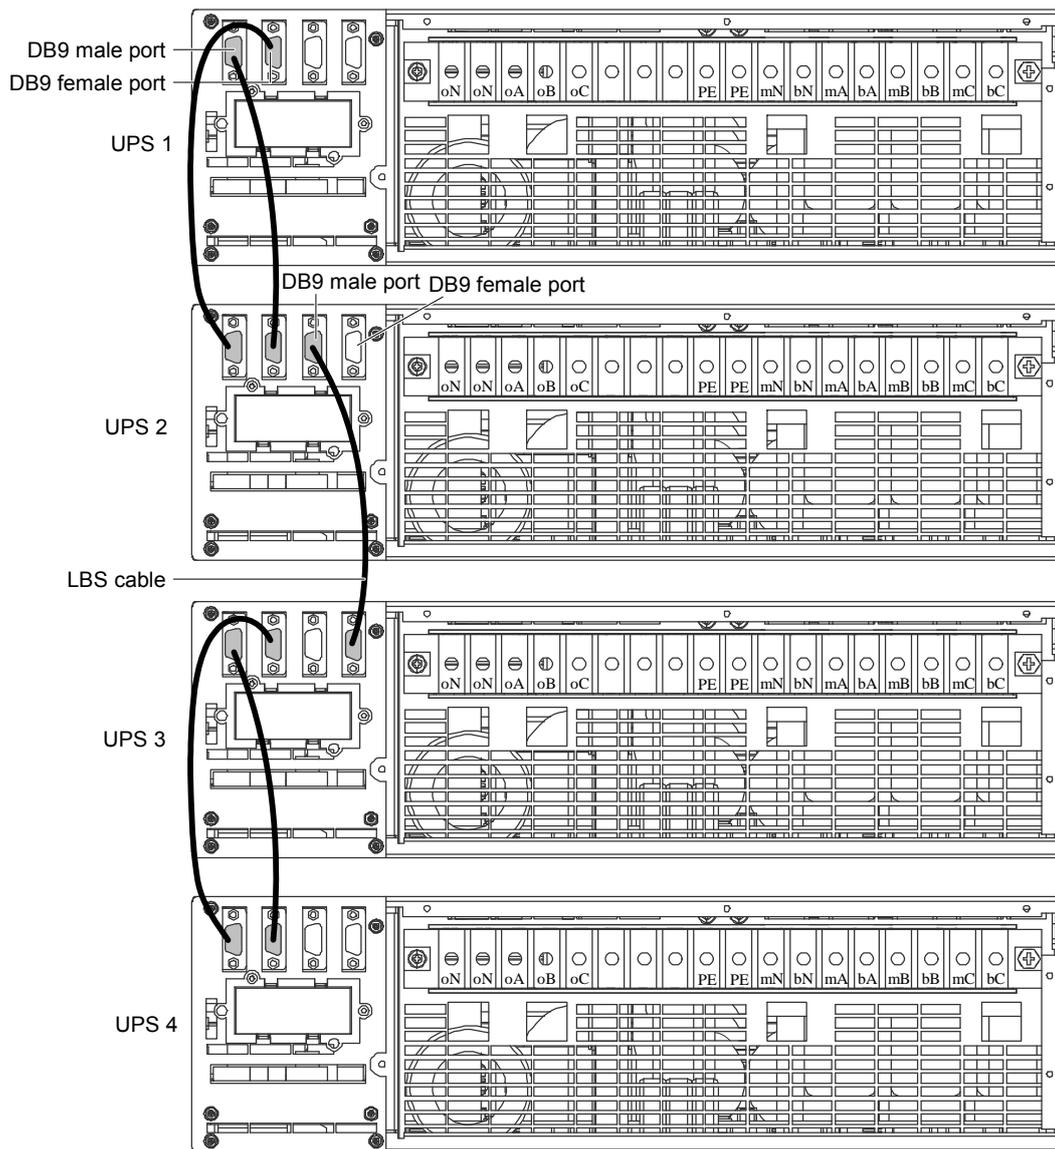

Figure 3-10 LBS cable connection
In double bus system, connect the two ends of the LBS cable to any LBS port of the two parallel systems respectively, as shown in Figure 3-10. The third port on the left is DB9 male port (pin shape), the fourth port on the left is DB9 female (hole shape).
3. As shown in Figure 3-10, one cable is LBS cable, others are parallel cables.